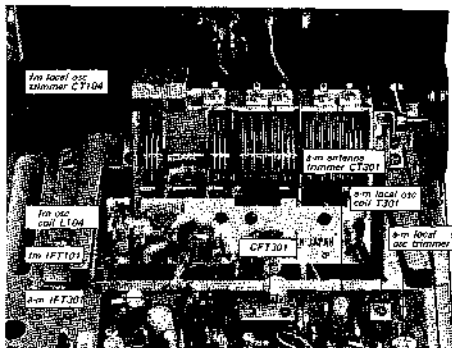

Fig. 3-5. Adjusting parts location
3. Turn the core of transformer IFT101 (See Fig. 3-5) with the alignment tool to obtain maximum output.
**Note:** The i-f transformers (CFT301, see Fig. 3-5 and IFT301) in the a-m i-f amplifier circuit are adjusted at the factory, so very little adjustment is necessary in the field even if replacing any of these i-f transformers.